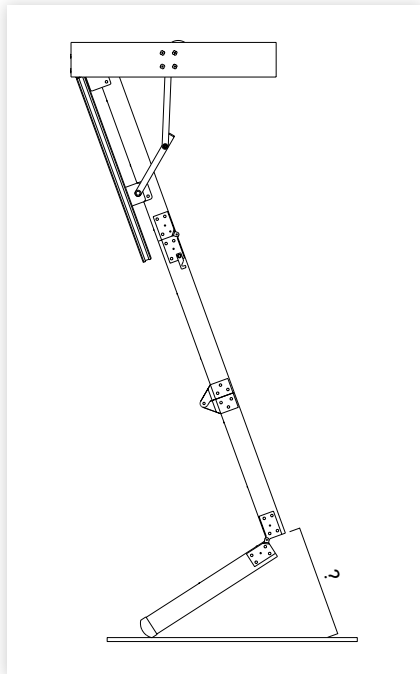

figure 10
1. With the top and middle sections of the ladder open and the bottom section tucked in behind, measure the distance from the bottom of the middle sections, to the floor at the same angle as the ladder (figure 10). Do this on both sides.
2. Once you have determined the length of '?' (figure 10) deduct 35mm for the Q24 attic ladder.